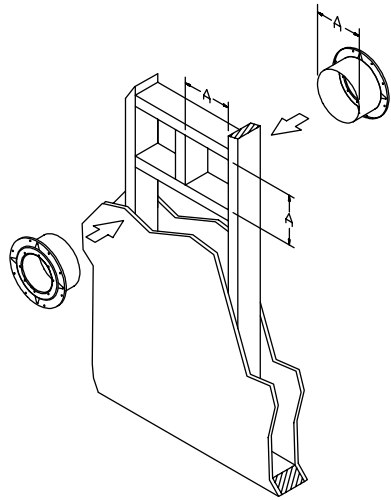

Figure 5
4. Wall Thimble. For a through-the-wall system, install the Wall Thimble, as shown in **Figure 5**. The Wall Thimble is designed to accommodate walls up to 6 inches thick. If you have thicker walls, a sleeve extension should be fabricated and attached to the existing sleeve. Do not fill the air space between the B-vent Pipe Section and the Wall Thimble with insulation, although an RTV-type sealant may be applied around the flange and nail heads if desired.